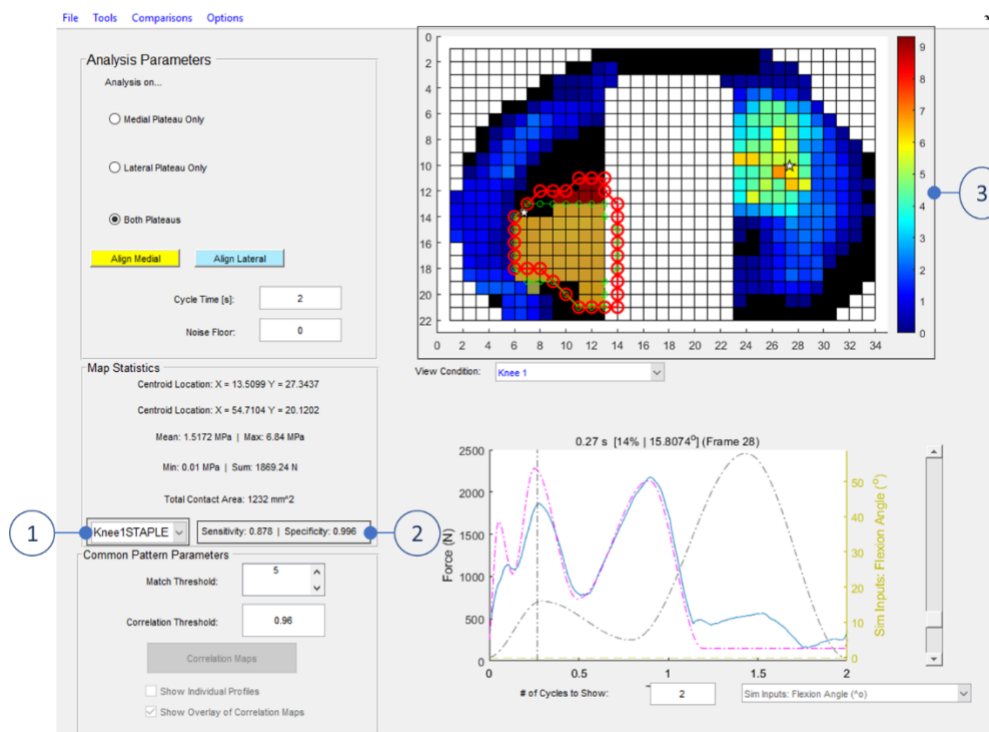

Figure 8: GUI with comparisons to Expert ROI
- 5) If multiple trainee ROIs were loaded use dropdown menu (shown in Figure 8 – 1) to select the ROI to view.
- 6) Sensitivity and specificity for the selected trainee ROI is shown in Figure 8 – 2.
- 7) The program will then show the ROI outlines and highlights if user selected those options (see 5.5.1). Expert ROI is shown in red and the trainee ROIs are shown in green. (Figure 8 – 3).